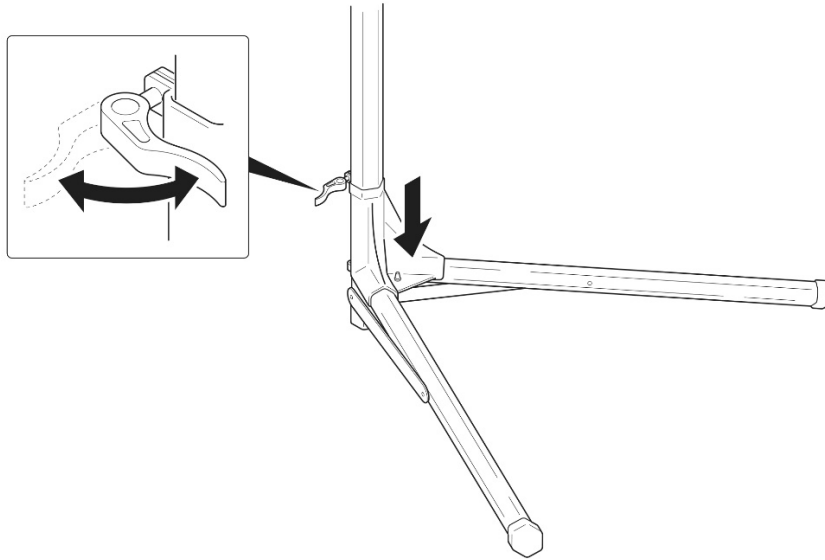

Figure 2: Field Generator Stand Quick Release Lever
2. Open the quick release lever on the yoke (Fig. 2). Slide the yoke down the upright tube to open the legs. The yoke must be slid all the way to the bottom of the upright tube to fully deploy the legs. Close the quick release lever to lock the legs in position.